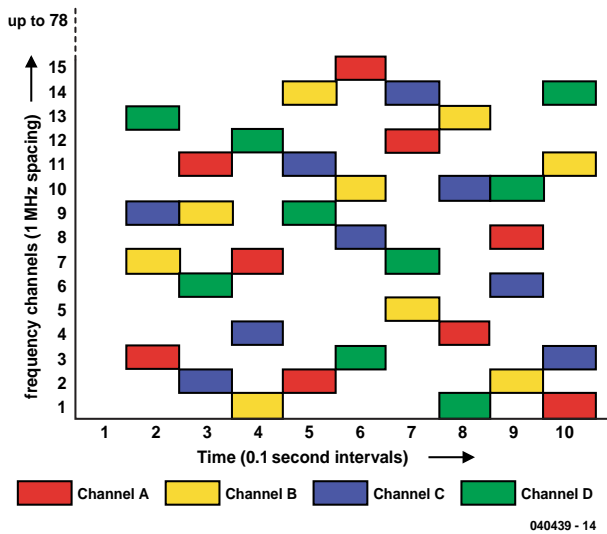

Figure 4. Frequency hopping allows each frequency to be used by several channels.
The other important technique besides DSSS is frequency hopping (FH). As the best-known representative of this technique, Bluetooth divides the ISM band between 2402 MHz and 2483.5 MHz into 79 channels, each with a width of 1 MHz. The signal hops (jumps) between channels in a cyclic pattern at the rate of 1600 hops per second. This means that typical narrow-band interference sources can cause only minor damage to the transmitted data. Figure 4 shows how several Bluetooth nodes can share the same frequency band using different frequency-hopping sequences. In principle, the frequency-hopping sequence for the FH technique corresponds to the PN code for DSSS, since in each case mutual interference among the individual nodes is prevented by using a different spread-spectrum sequence for each node.